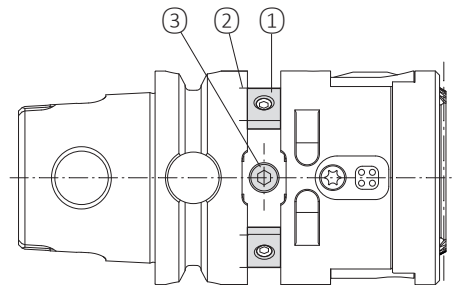

Fig. 8
4.4 Balancing (Fig. 8)
It is not permitted to use the tool without the bonded-in screw plug ③ (Fig. 8) in the balancing groove inlet.